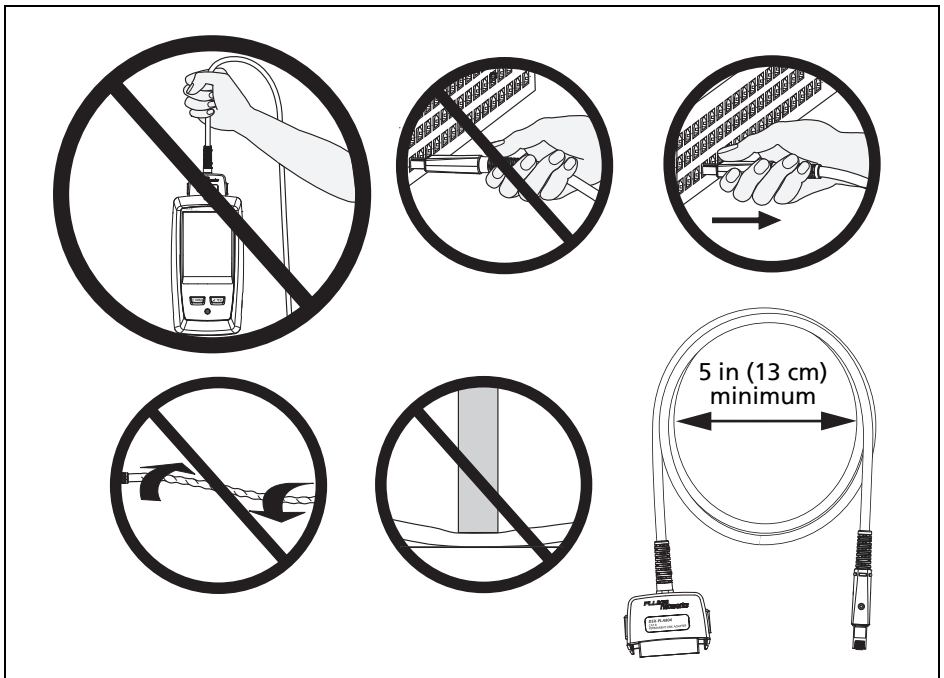

Figure 1. How to Prevent Damage to the Permanent Link Adapter Cables
- For permanent link adapters, do not twist, pull on, pinch, crush, or make kinks in the cables. See Figure 1.
To disconnect the permanent link adapter's plug from a patch panel, pull on the plug's case as shown in Figure 1. It is not necessary to press on the latch to disconnect the plug.